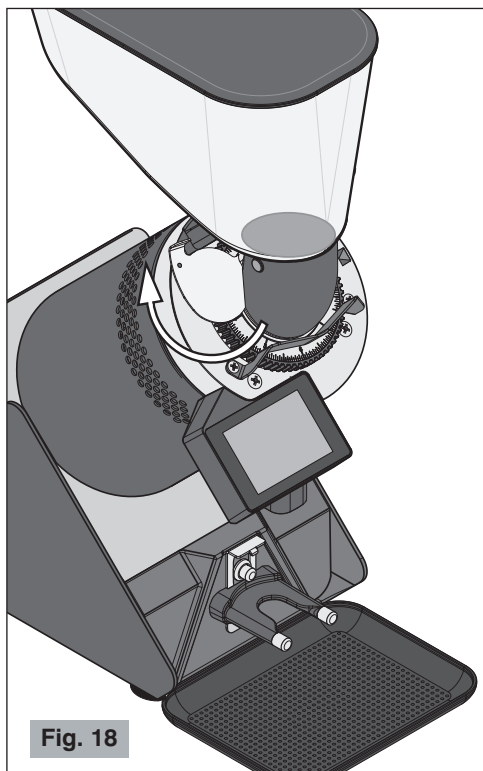

Fig. 18
**Make sure that shutter is fully open to the end of its stroke (see Fig. 18).**